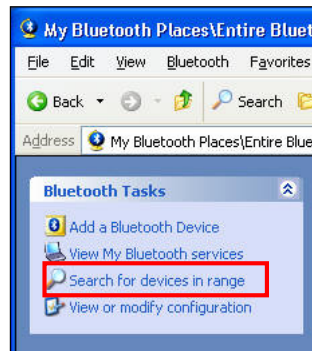

Figure 88: Search for devices in range
4. Right-click the Bluetooth icon on the Windows taskbar and select *Explore My Bluetooth Places* from the pop-up menu to open the *My Bluetooth Places* dialog box (refer to Figure 88).